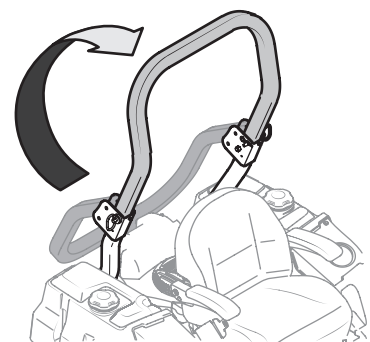

Figure 2-4
- Remove the left and right clevis pins and cotter pins securing the ROPS in position and rotate it so that they allow the ROPS to move freely. See Figure 2-4.